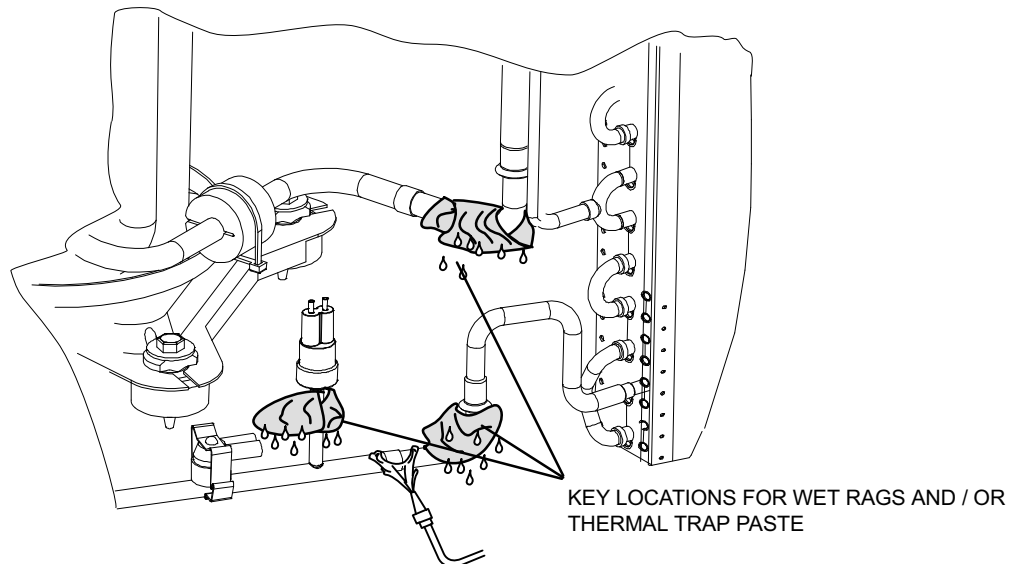

FIGURE 3. Important Precautions for Coil Installation
Apply a wet cloth to the factory copper-to-aluminum joints and the pressure switch to prevent heat damage when brazing in the field copper-to-copper joints for the replacement coil. See figure 3.
9. Install new discharge line. **See figure 3 for important precautions regarding brazing.** Align the discharge line on the replacement coil with the discharge line from the compressor. Install the provided coupling between the two tubes. Braze the coupling into place.